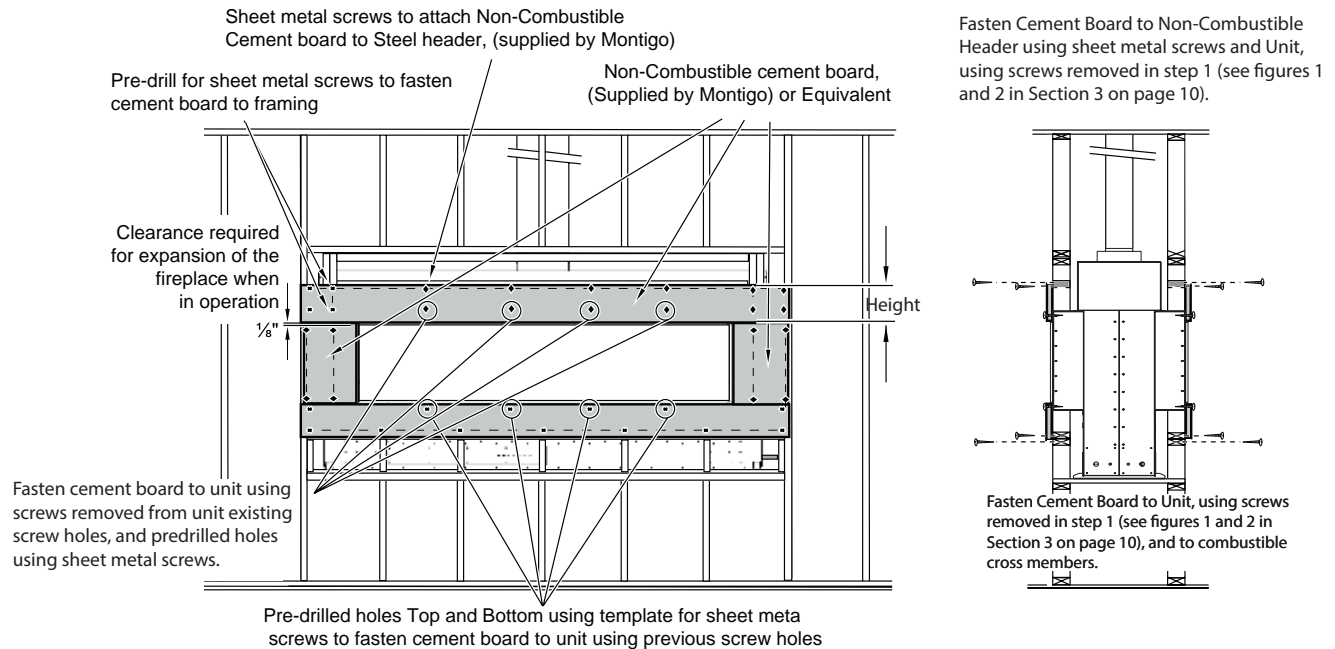

Figure 4 Sec.3 Non-combustible Cement Board the Fireplace, (supplied by Montigo) Both Sides Typical.
Step 3. As shown in Figure 4; Use Cement Board, supplied by Montigo, to overlap the new 2 x 4's and Non-combustible Header (front & rear face). Attach on all sides of the glass, allowing 1/8" clearance from the rim of the fireplace opening. Top piece attaches